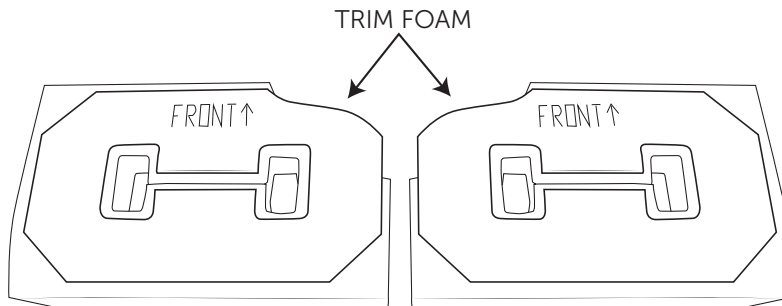

Figure 8
9. Trim the upper, inside corners of the factory foam and around tow hooks (fig. 8)